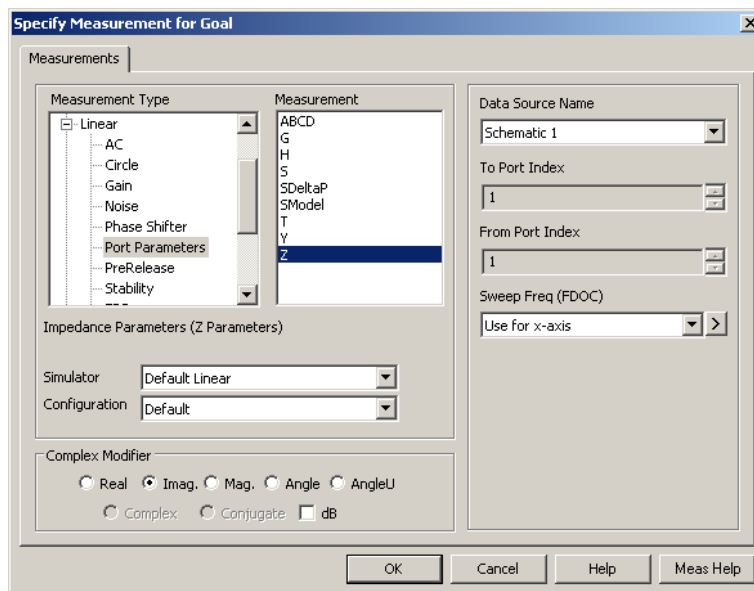
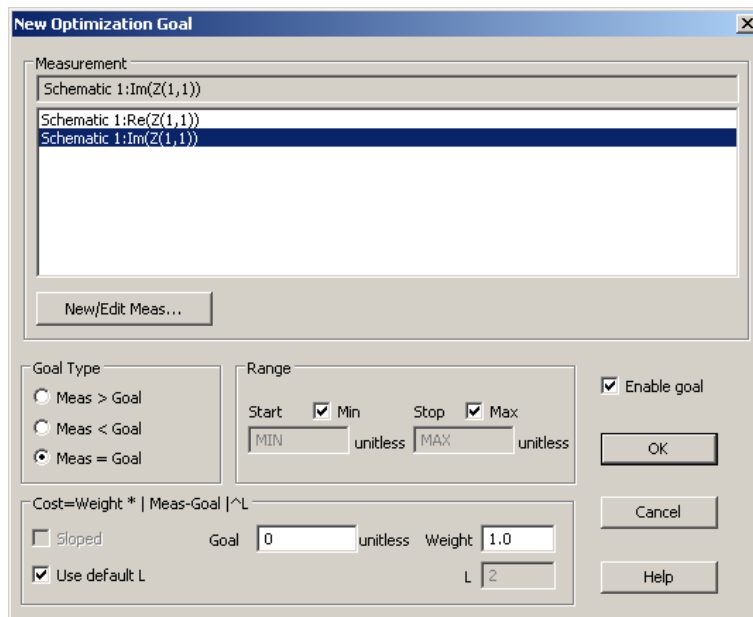
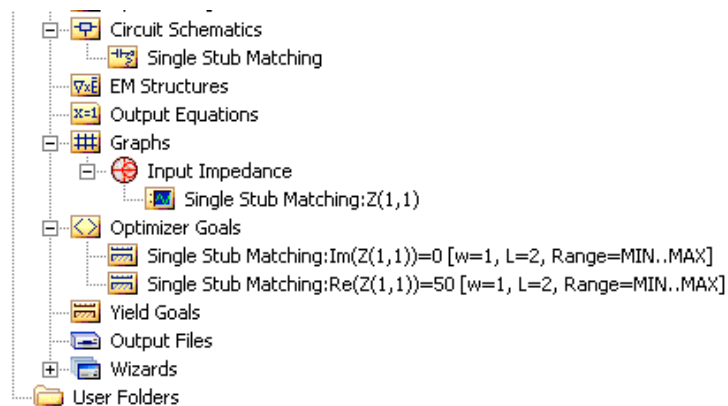

Figure 10.4: Chart 8 : Imaginary Optimizer Goal Measurement
Figure 10.5: Chart 8 : Imaginary Optimizer Goal
Figure 10.6: Chart 8 : Project Tree
- Add another ‘Optimiser Goal’ which forces the imaginary part of the complex impedance looking into port one to 0Ω . See figure 10.5 and figure 10.4. The two goals are defined separately. Each has their own entry in the ‘Project Browser’. See figure 10.6.